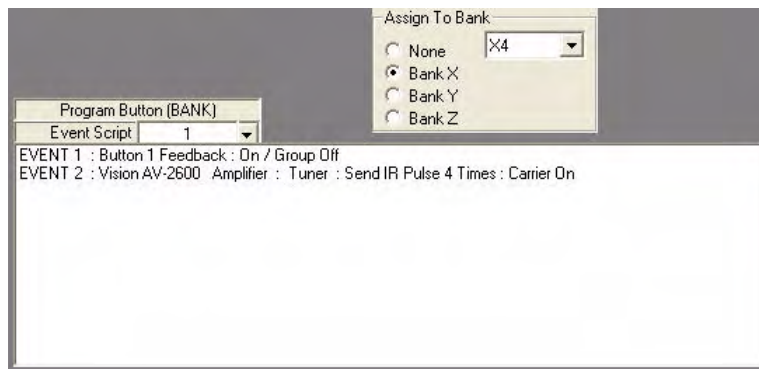

FIG. 66 Script for Bank X4 (Tuner On)
6. Select **X4** from the *Assign To Bank* drop-down menu and write a script for a tuner (FIG. 66).